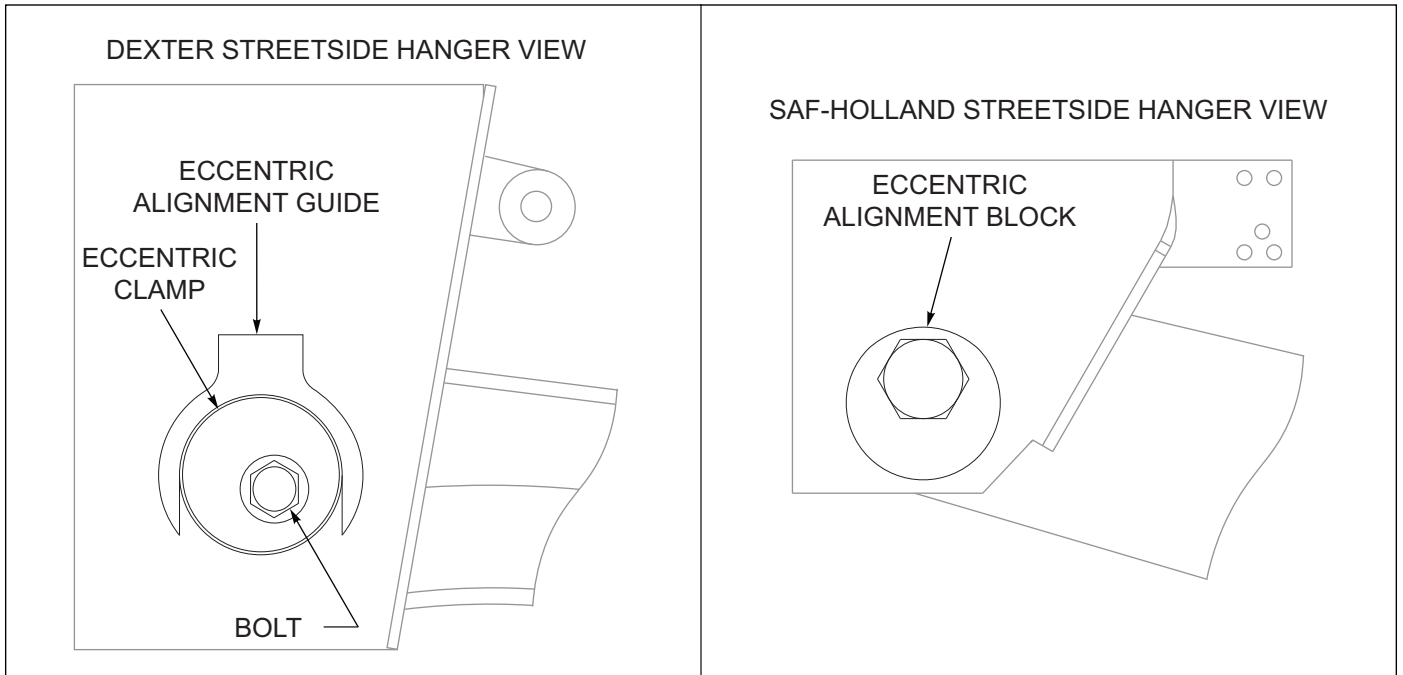

Figure 4-11: Streetside Suspension Hanger
- a. 1-1/8 in Pivot Bolts - Loosen pivot bolt lock nuts and rotate eccentric pivot bolts clockwise or counter-clockwise to adjust. Repeat Steps 5-6 until measurement is achieved, **See Figure 4-11.**
- b. 7/8 in Pivot Bolts - Break welds if present between hanger mounts/eccentric collars and pivot lock nuts/jam nuts. Loosen jam nuts if installed. Loosen lock nuts. Rotate eccentric pivot bolts clockwise or counter-clockwise to adjust. Repeat Steps 5 through 6 until measurement is achieved, **See Figure 4-11.**
- a. 1-1/8 in Pivot Bolts - Loosen pivot bolt lock nuts and rotate eccentric pivot bolts clockwise or counterclockwise to adjust. Repeat Steps 5 through 6 until measurement is achieved, **See Figure 4-11.**
- b. 7/8 in Pivot Bolts - Break welds if present between hanger mounts/eccentric collars and pivot lock nuts/jam nuts. Loosen jam nuts if installed. Loosen lock nuts. Rotate eccentric pivot bolts clockwise or counterclockwise to adjust. Repeat Steps 5 through 6 until measurement is achieved, **See Figure 4-11.**